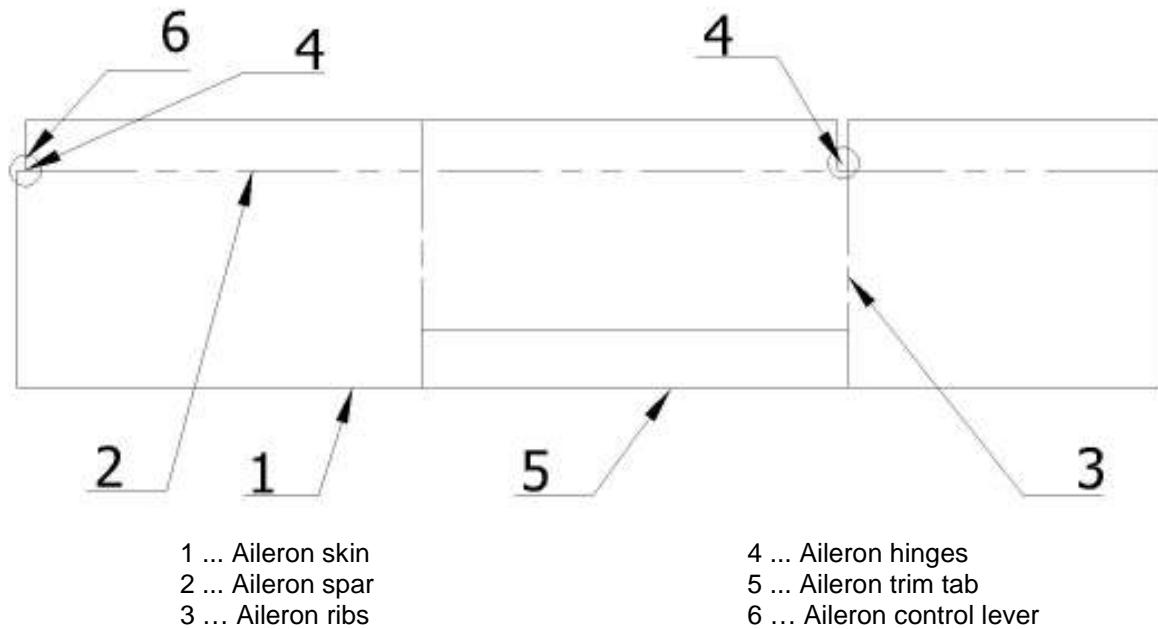

Fig. 4-3: Aileron (right)
Ailerons (Fig. 4-3) are of aluminum structure consisting of the skin (1) aluminum sheet metal, spar (2) and ribs (3) which are connected by means of riveting. Ailerons are suspended on the rear spar by means of two hinges (4). Moreover the trim tab (5) is installed on the right aileron serving the lateral balance of airplane. Control lever (6) is installed on the root aileron rib.